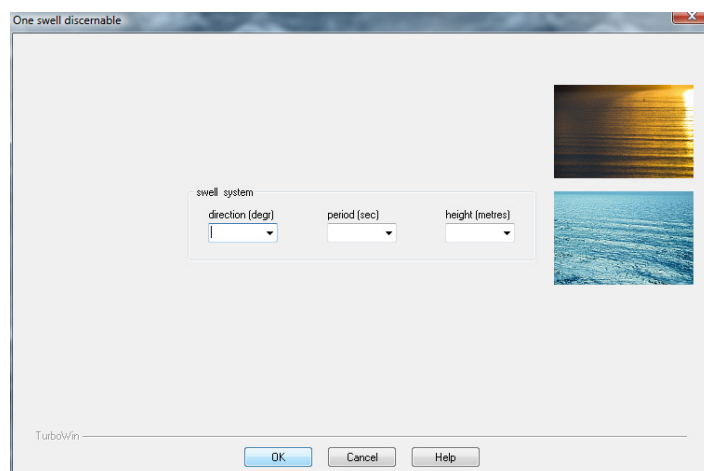

Figure 18. One swell discernable
10.5.8.2. The dialogue box in **Figure 18** will appear if only **one swell is discernable** (swell option 4, **Figure 16**).